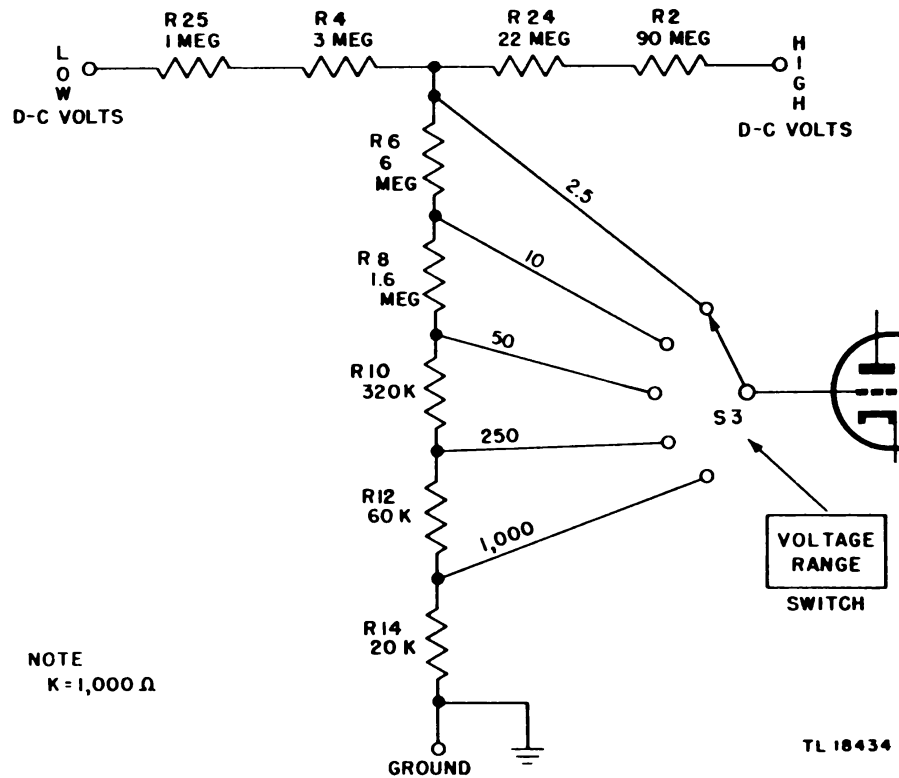

Figure 15. Simplified schematic diagram of d-c voltage divider resistor network.
**c. Voltage-divider Resistor Network.** If the voltage-divider resistor network were omitted from this circuit and a single resistor connected between the control grid of the bridge tube and ground, only voltages between 0 and approximately  $1\frac{2}{3}$  volts could be applied to the grid of the tube. This is true since a voltage of  $1\frac{2}{3}$  volts on the grid is made to cause full scale deflection of the meter when the calibration potentiometer (P2 or P3) is adjusted (see subpar. c(6) below). The bridge is so designed that meter readings are linear when voltages within this range are applied to the grid. The purpose of the voltage-divider network, therefore, is to reduce input voltages at the D.C. VOLTS LOW or D.C. VOLTS HIGH terminals to a proportionate value between 0 and  $1\frac{2}{3}$  volts before application to the control grid. A more detailed explanation follows.
(1) Figure 15 shows a simplified schematic diagram of the voltage-divider resistor network with R25 and R24 having values of 1 megohm and 22 megohms, respectively. In this diagram, the total resistance between the D.C. LOW and GROUND terminals is 12 megohms while the total resistance between the D.C. HIGH and GROUND terminals is 120 megohms.
(2) When  $2\frac{1}{2}$  volts is applied between the D.C. VOLTS LOW terminal and GROUND, a current of 0.000,000,208 amperes (0.208